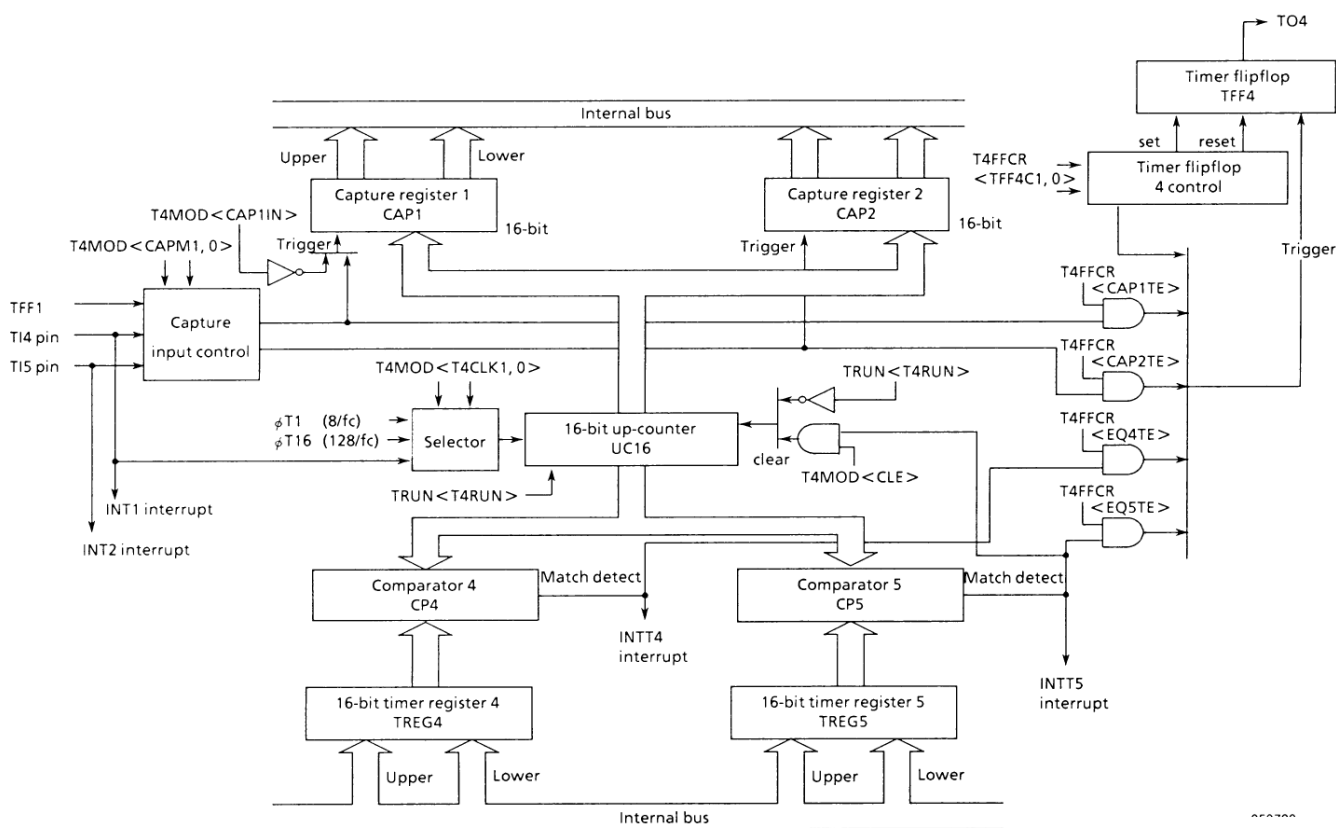

Figure 3.6 (12). 16-Bit Timer/Event (Timer 4) Block Diagram
A block diagram of the 16-bit timer/event counter is shown in Figure 3.6 (12).